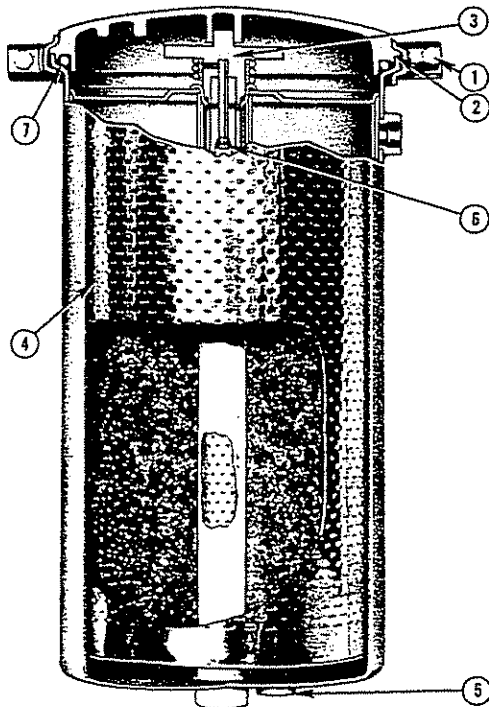
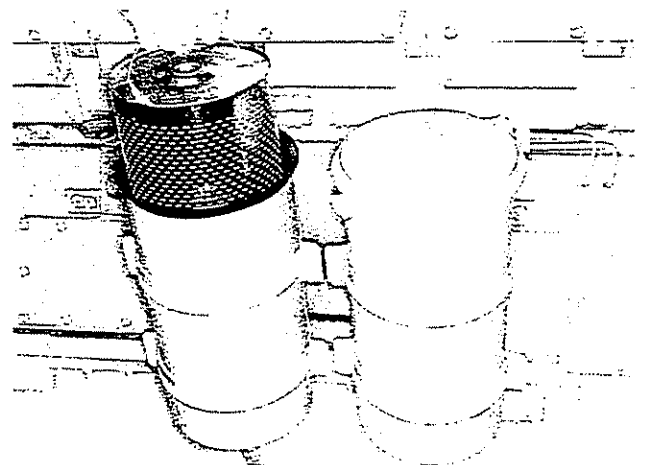

Fig. 2-17, (V41908). By-pass filter cross section
Fig. 2-18, (K21908). Installing by-pass filter element
1. Remove the drain plug (5, Fig. 2-17) and drain oil.
2. Remove the clamping ring capscrew (1) and lift off the cover.
3. Unscrew the support hold-down assembly (3); lift out the element (4) and the hold-down assembly. Discard the element.
7. Check the orifice plug (6) inside the oil outlet connection or standpipe; blow out with air to open and clean.
8. Check the filter cover O-ring (7). Replace if necessary.
9. Install the new element in the housing, Fig. 2-18.